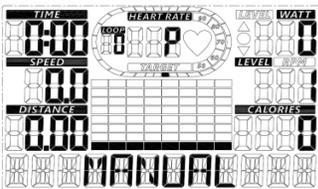
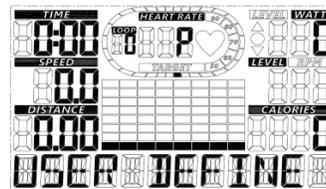

Fig. 7
Fig. 15
- Under ready mode, press “START” button or “QUICK START” to begin the workout. (Directly enter manual mode) or press UP(▲)/DOWN(▼) button to choose Manual, Hill, Fat Burn, Cardio, Strength, Interval, Watts Constant, H.R.C or User Define program (fig. 7 ~ fig. 15) and press “SET” button to enter.